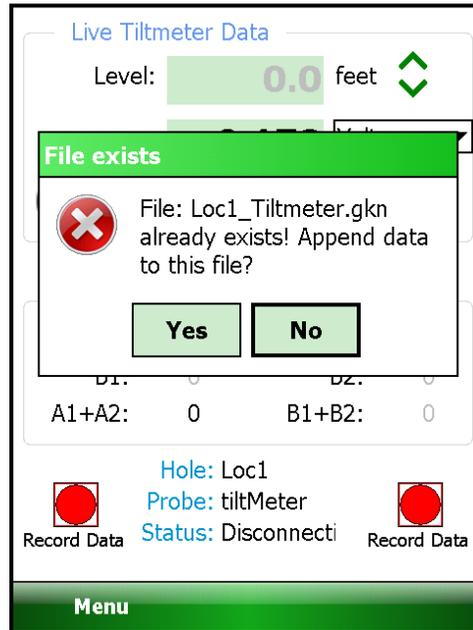

Figure 92 - File Exists Dialog
12. After tapping “Save” the GK-604D IRA will determine if the file exists. If this is a new file then the data will be written to it in a format similar to the standard Inclinometer format. If a file of the same name already exists then the dialog shown in Figure 92 will be displayed.
9. After tapping “Save” the GK-604D IRA will determine if the file exists. If this is a new file then the data will be written to it in a format similar to the standard Inclinator format. If a file of the same name already exists then the dialog shown in Figure 92 will be displayed.